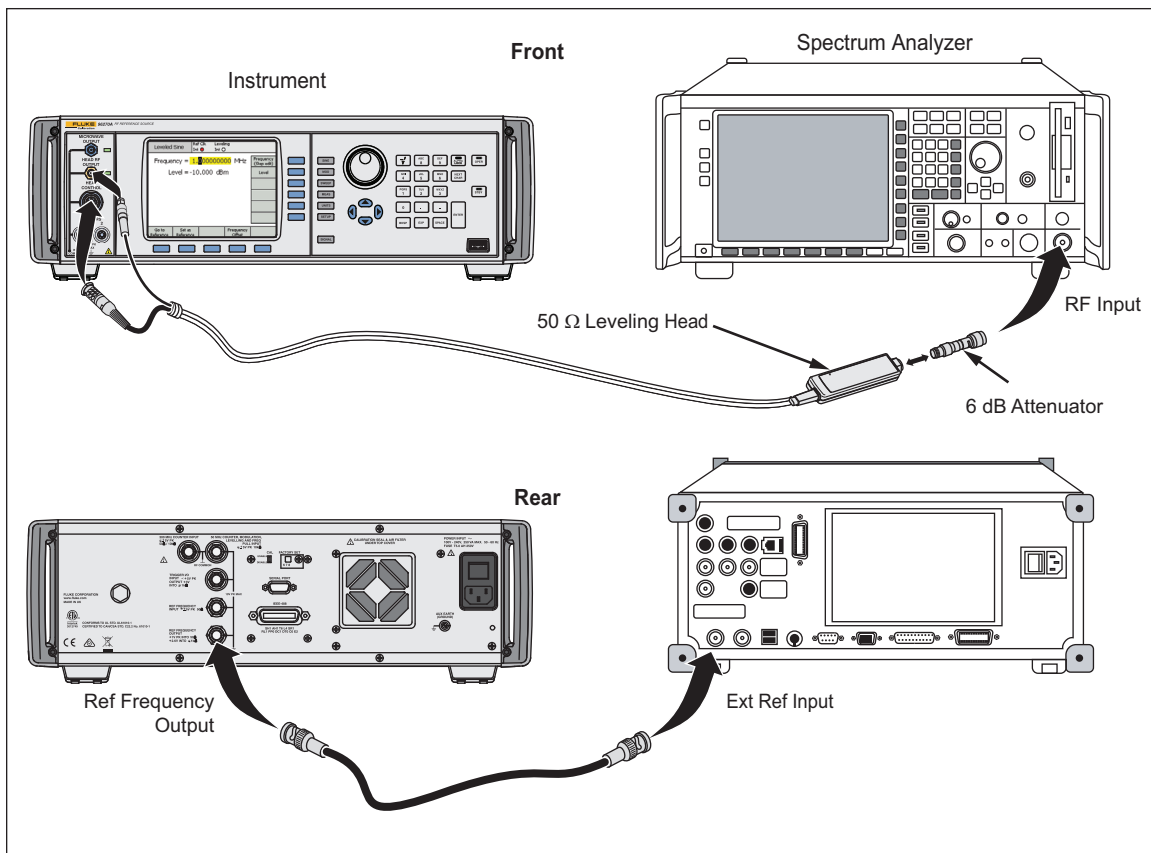

Figure 3-8. Equipment Connections - 50 Ω Leveling Head Attenuation Accuracy Test
1. Connect the Leveling Head to the RF INPUT of the Measuring Receiver via a 6 dB attenuator and connect the REF FREQUENCY OUTPUT (rear panel) from the UUT to the Spectrum Analyzer Ext Ref In (on rear). See Figure 3-8 for equipment connections.